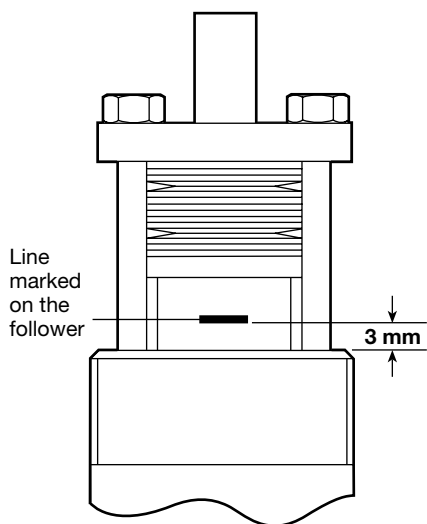

Fig. 3a
15. Fit the packing follower (22), refit the belleville washers (25) following the original order, and stuffing box ring (19) into position. Lubricate the stuffing box nuts (16). Install and tighten the packing flange nuts finger tight.
17. The packing should now be compressed by a nominal 10%. Mark a line on the follower 3 mm above the top of the gland housing. Then tighten the packing flange nuts, until the line on the follower reaches the top of the housing (See Figs. 3a and 3b opposite).